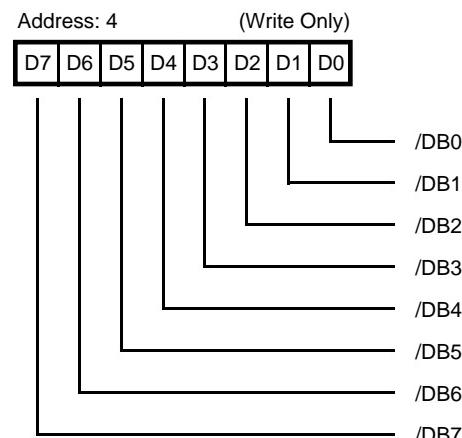

Figure 11. Select Enable Register
Select Enable Register. Address 4 (Write Only). The Select Enable Register (Figure 11) is a write-only register which is used as a mask to monitor a signal ID during a selection attempt. The simultaneous occurrence of the correct ID bit, /BSY False, and /SEL True causes an interrupt. This interrupt can be disabled by resetting all bits in this register. If the Enable Parity Checking bit (Mode Register, bit 5) is active (1), parity is checked during selection.